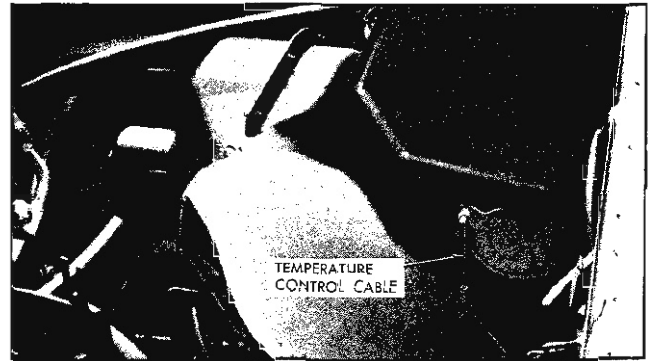

Fig. 12-6 Location of Temperature Control Valve Lever
3. Loosen cable housing clamp screw at temperature control valve (Fig. 12-6).
1. Disconnect temperature control cable from heater air inlet duct (on engine side of dash shroud). See Fig. 12-6.